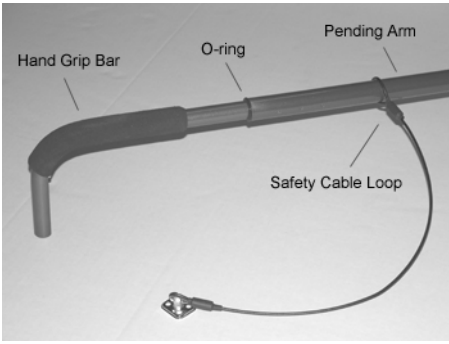

Figure 2
3. Remove **Pending Arms** and install the loop of one **Safety Cable** over the end of each **Pending Arm**. (Figure 2)
4. Install a **Hand Grip Bar** into each **Pending Arm** and slide **O-ring** along to meet it. (Figure 2) *Align the flat sides exactly and exert accurately aligned pressure for best results.*